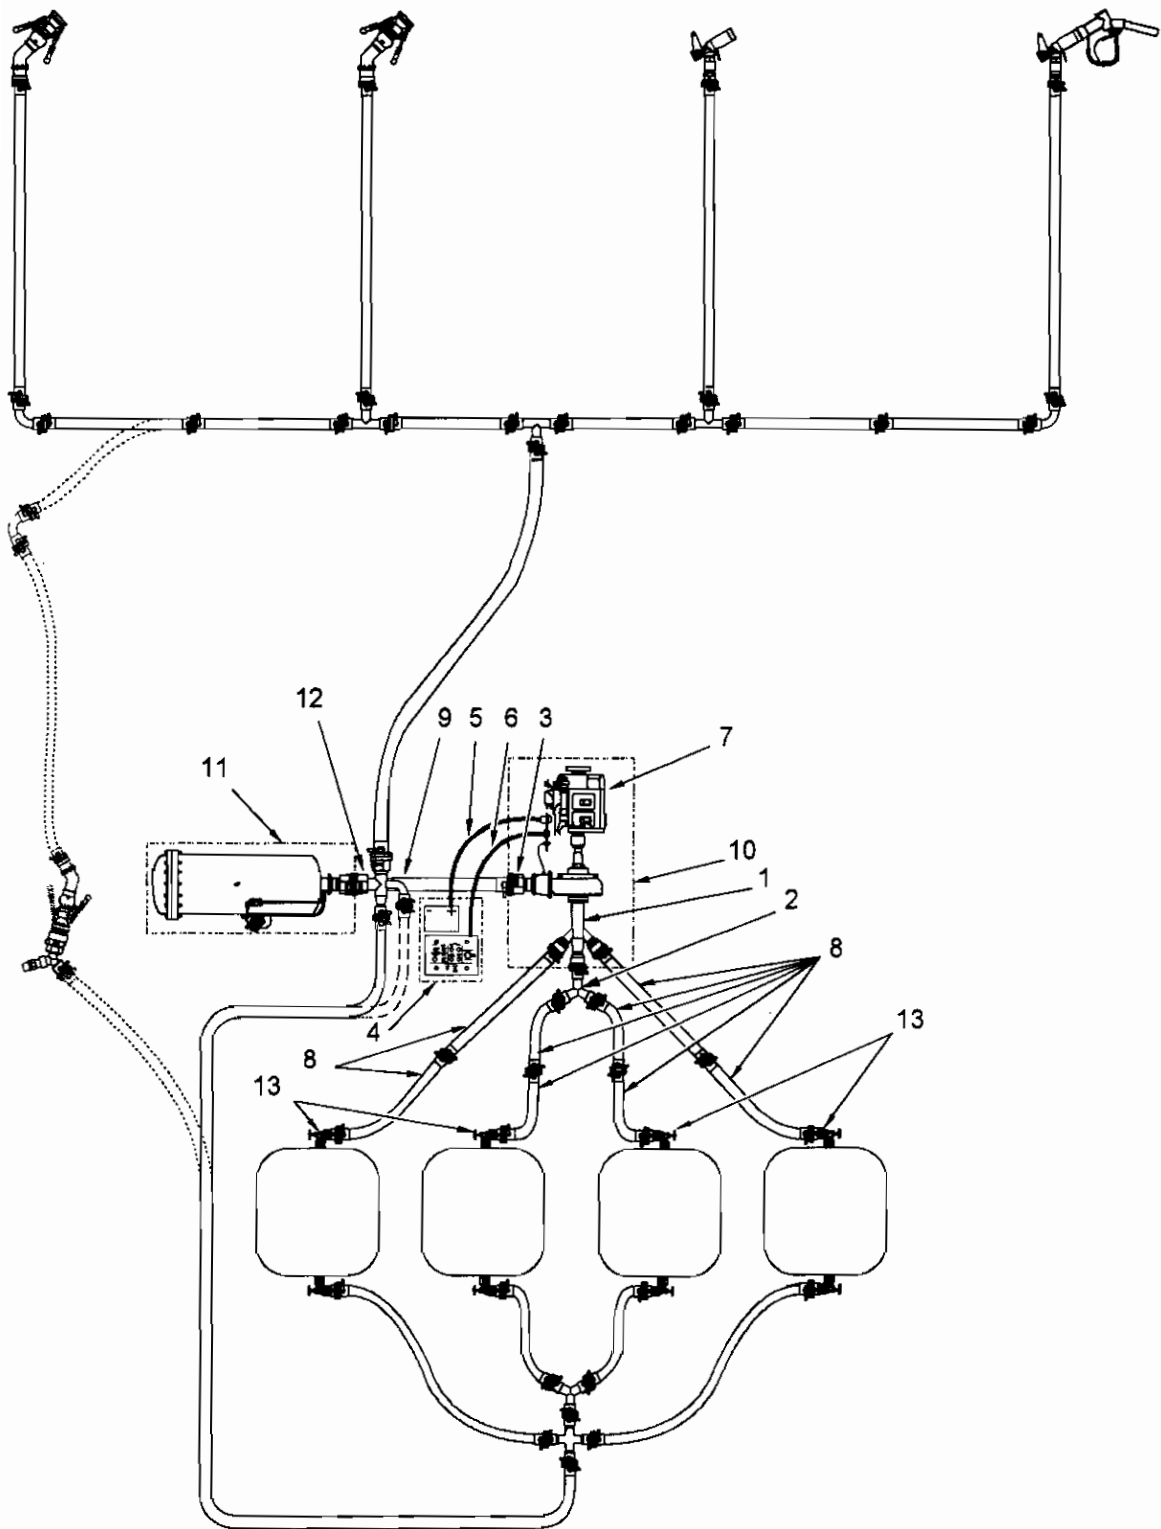

Figure 2-27. Replacement of System Components
2.8 SYSTEM COMPONENT REPLACEMENT. (Refer to figure 2-27.)
2.8.1 REPLACE ENGINE MODULE. (Refer to figure 2-27.)
- a. Remove engine module (7) from pump-engine module IAW para. 2.4.d.
- b. Install engine module in (7) pump-engine module IAW para. 2.4.k.
2.8.2 REPLACE PUMP-ENGINE MODULE. (Refer to figure 2-27.)
- g. Disconnect the inlet wye (2) from the pump inlet manifold (1).
- h. Close unisex coupling valves on suction hoses (8) and disconnect the two suction hoses (8) from the pump inlet manifold (1).
- i. Close unisex coupling valves on 3" x 6' discharge hose (9) and disconnect the 3" x 6' discharge hose (9) from the pump outlet (3).
- j. Drain pump inlet manifold (1) of fuel.
- k. Remove pump-engine module (10) and position replacement pump-engine module for connection to system IAW para. 2.4h.
- l. Install inlet wye (2), suction hoses (8), and discharge hose (9) on pump-engine module.
- m. Connect cables W201 (5) and W202 (6) to engine module (7).
2.8.3 REPLACE ACCESSORY MODULE. (Refer to figure 2-27.)
- b. Disconnect cables W201 (5) and W202 (6) from engine module (7). Stow cables in accessory module (4).
- c. Remove air cleaner from engine and install dust cap on intake manifold IAW with para. 2.9m. Stow air cleaner in accessory module (4).
- d. Remove accessory module (4) and position replacement accessory module for connection to system.
- e. Connect cables W201 (5) and W202 (6) to engine module (7).
2.8.4 Replace Liquid Fuel Filter-Separator. (Refer to figure 2-27.)